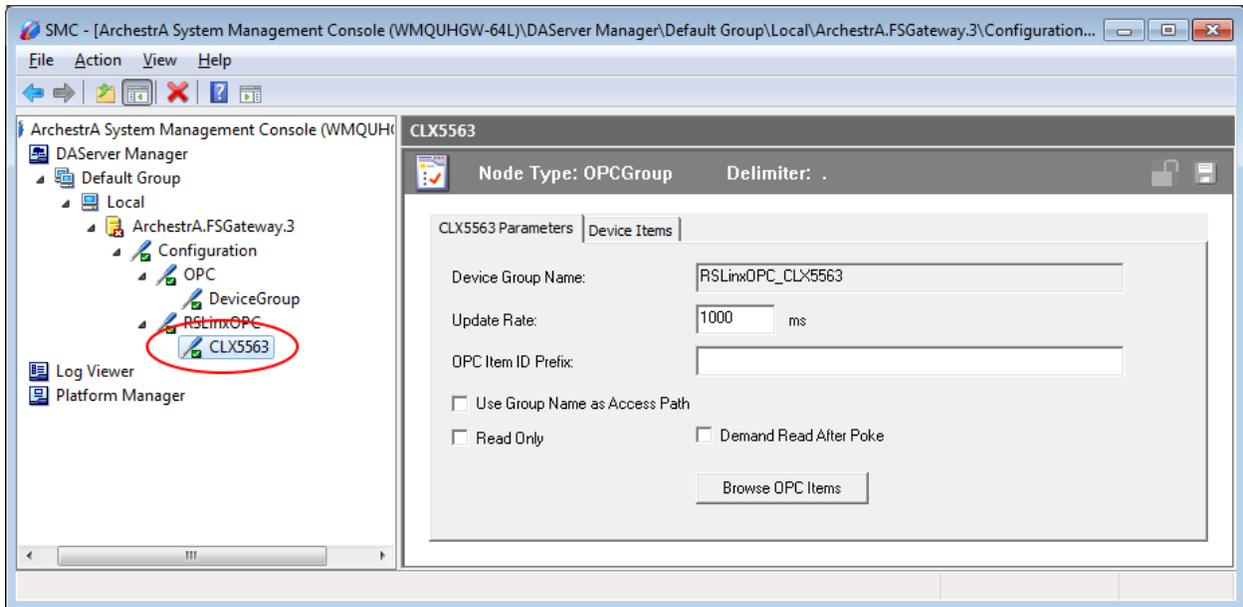

Figure 10: OPC Group Parameters
11. Rename the default New\_OPC\_Group\_000 to a meaningful name such as **CLX5563** (Figure 10 below):
15. Click **OK** to return to the OPC Group Parameters tab field as shown in Figure 10 above.